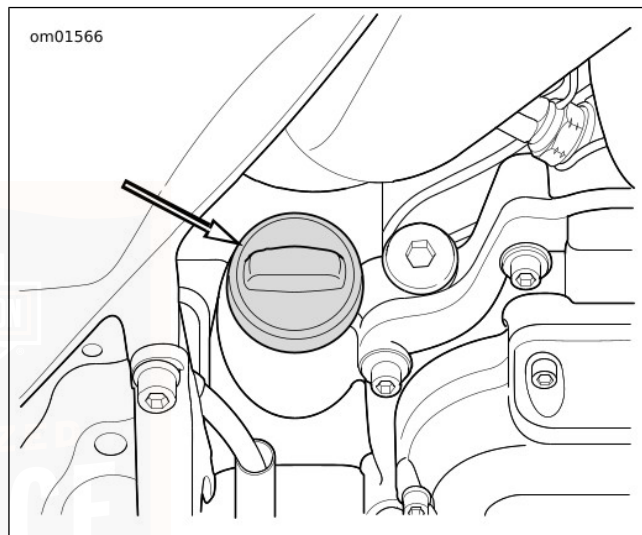

Figure 83. Engine Oil Filler Plug
2. See Figure 83. Check engine oil level.
3. See Figure 83. Check oil level.